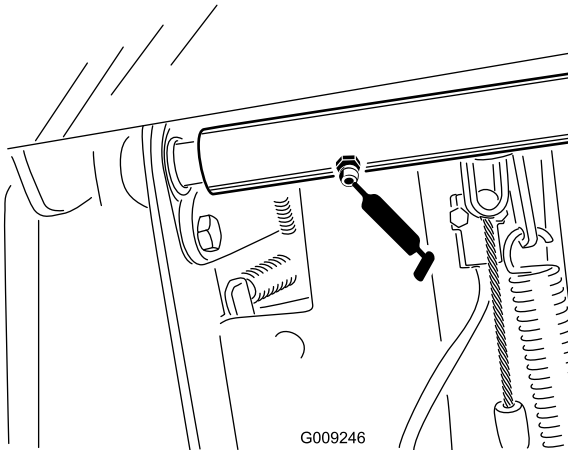

Figure 49
- Brake shaft pivot bearings (1) (Figure 49)